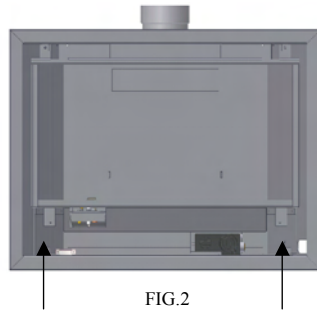

FIG.2
2. To remove the outer decorative frame surround: Remove the four screws of the decorative frame and carefully pull it out. (FIG. 2).